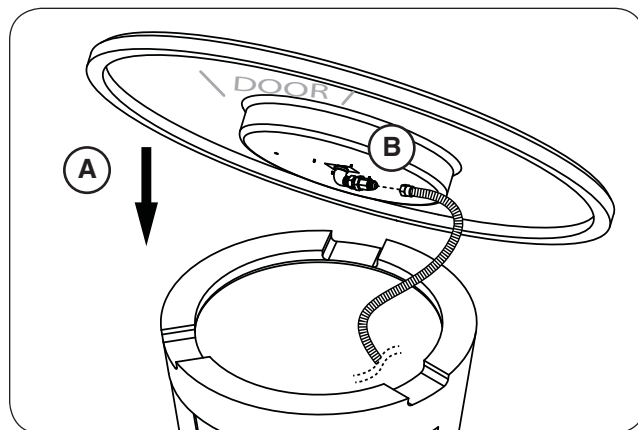

Fig. 18-3 Place top and connect flex
3. **CAREFULLY** place the top on the unit (see Fig. 18-3, A).
4. Locate the flex connector (marked OUT) that is coming off the valve assembly. Route it to the connection found on the underside of the firetable top and connect. Tighten securely. See Fig. 18-3, B.